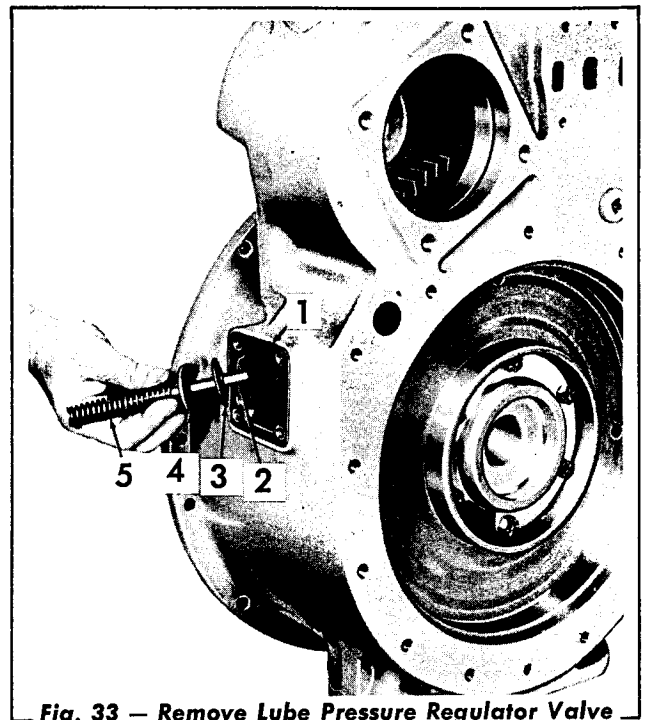

Fig. 33 — Remove Lube Pressure Regulator Valve
17. Remove the gasket (Fig. 33), the pin, the washer, the lube pressure regulator valve